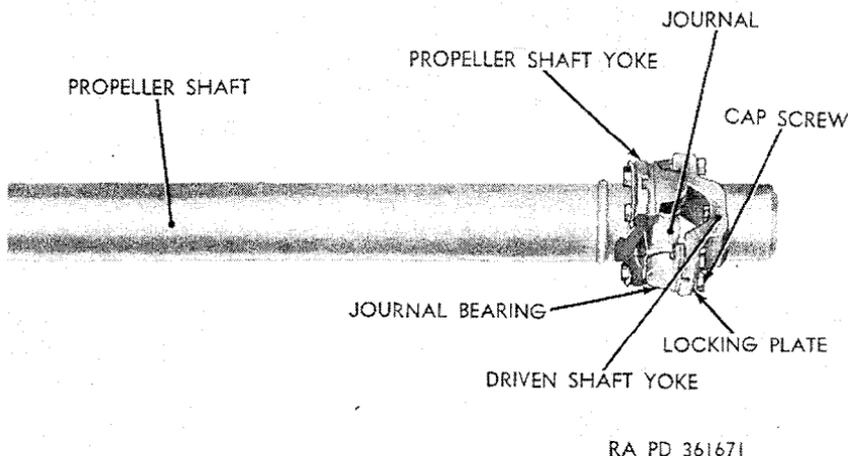

Figure 215. Yoke-mounted universal joint.
c. Universal Joints. The universal joint (figs. 215 and 216) installed at each end of the propeller shaft consists of a journal with four journal bearings, two of which are secured with cap screws to the propeller shaft yoke. The other two journal bearings are secured by cap screws either to a yoke (fig. 215) installed on the driven shaft, or to an adapter flange (fig. 216) which is bolted to a companion flange installed on the driven shaft.
- (1) Bend down two locking plates, remove four cap screws securing two journal bearings (two cap screws from each bearing) to driven shaft yoke, and remove propeller shaft and journal assembly from yoke (fig. 215).
- (2) Repeat (1) above at other end of propeller shaft assembly, and remove propeller shaft assembly from vehicle.
- (3) Bend down two locking plates, remove four cap screws securing two journal bearings (two cap screws from each bearing) to propeller shaft yoke, and remove journal and bearing assembly from propeller shaft.
- (4) Repeat (3) above at other end of propeller shaft assembly.
screws in holes in locking plate, yoke, and journal bearing (fig. 215).